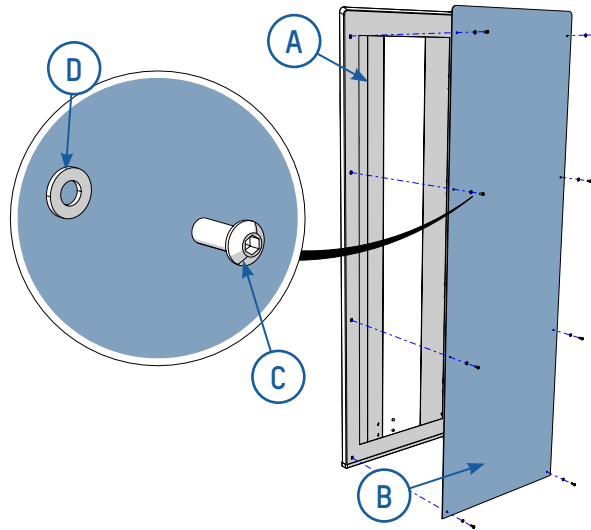

Fig. 18
Remove the front (B) of the central section (A) by removing the 8 nylon fixing screws (C) and washers (D) [⇒ Fig. 18];